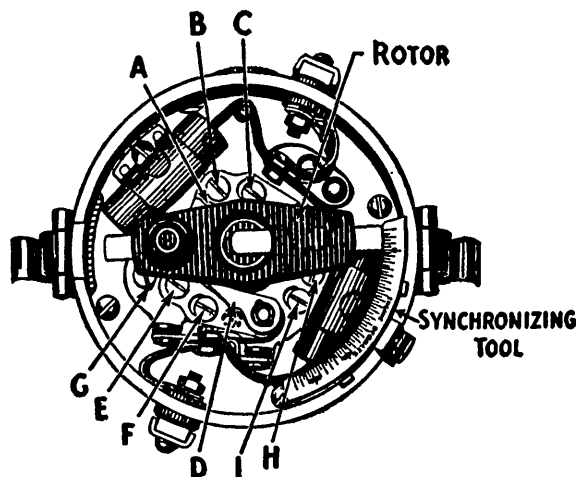

FIG. 13.
1. Adjust breaker contact separation of STATIONARY ARM "A" (Fig. 13), by slowly hand cranking engine until rubbing block of BREAKER ARM "A" is on lobe of cam. Loosen LOCK SCREW "B" and turn ECCENTRIC SCREW "C" until contact point opening is .022 inch.